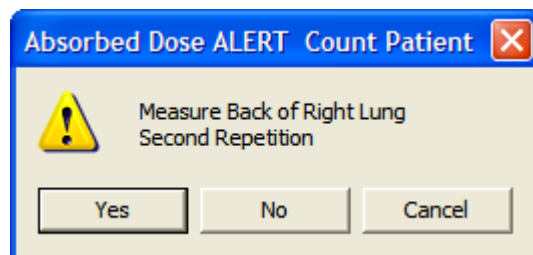

Figure 9-25
**Note:** If the number of **Repetitions** in the setup has been set to 2, each measurement, excluding background, will be repeated twice. You may skip the second repetition, if desired, by clicking the **No** button as shown in Figure 9-25.